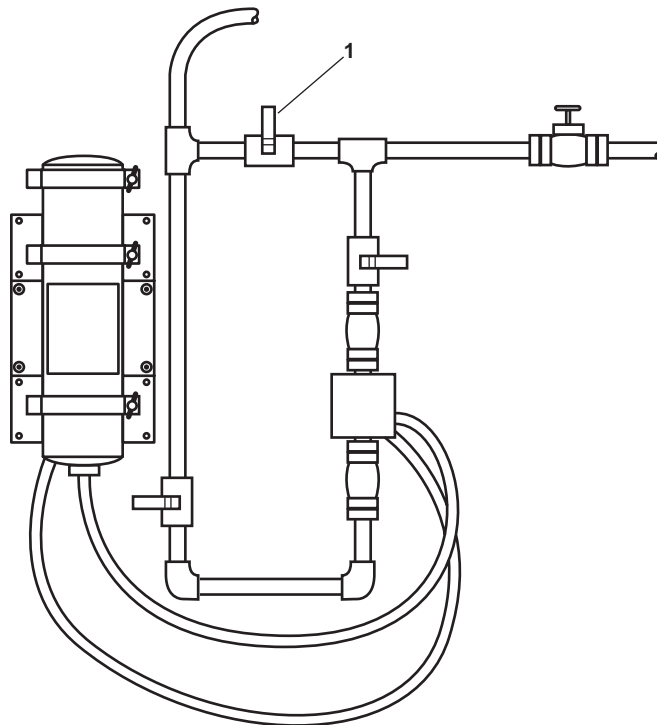

Figure 7. Brominator
8. Verify that the brominator is online and operating normally (TM 55-1925-273-10), or that PW-36 BYPASS-BROMINATOR (figure 7, item 1) is OPEN.